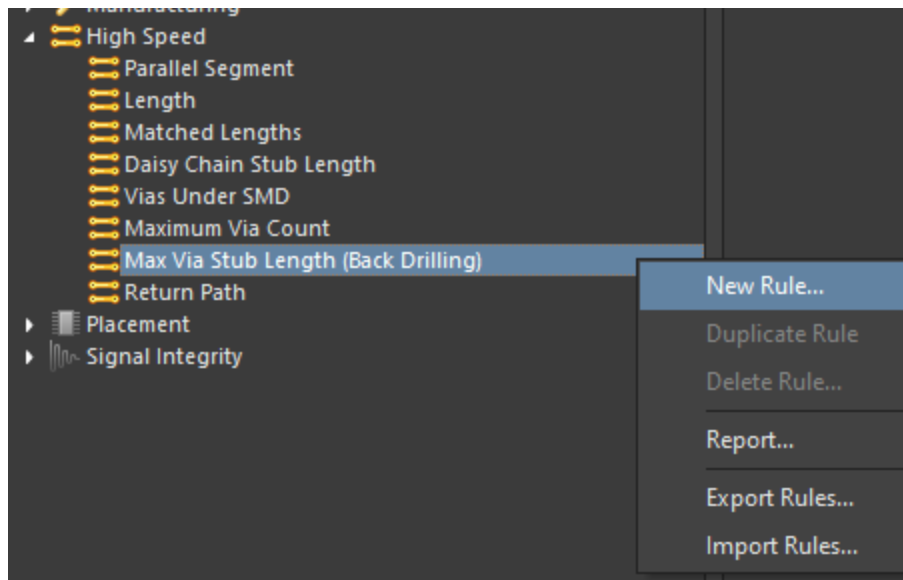

Figure 6. Adding New Max Via Stub Length rule
20. Under the *High-Speed* category, select the *Max Via Stub Length (Back Drilling)* rule, right-click on it and select **New Rule...**, Figure 6.